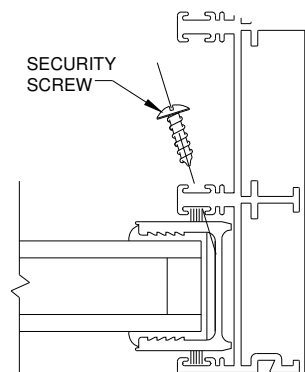

Figure 31:
- **“O” Panel-** Lift and move the panel into the fixed jamb as far as possible. Verify that the weather stripping in the frame head is located so that it contacts the width of the “O” panel. Installing the fixed panel security screw: Using a 1/16” diameter bit, drill a hole into the fixed stile through the hole shown in Figure 31. Then insert a black #8 x 3/4” self-threading screw.